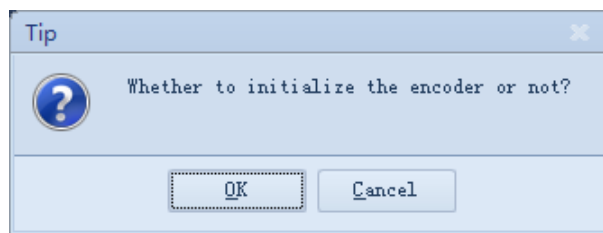

Fig. 3-33 Encoder initialization confirmation dialog box
- 1) Click [Encoder clear] in the pull-down list of [Other]. A confirmation dialog box will pop up (see Fig. 3-33).